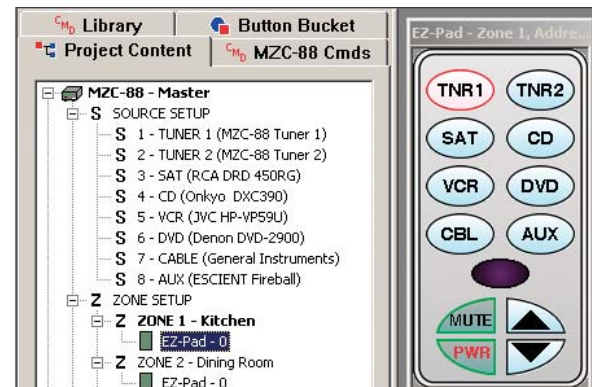

Figure 6
7. In the Project Content Window, left click the EZ-Pad in the Zone that is going to be programmed to send RS232 commands from the RSA-1.0. (Zone 1, EZ-Pad-0 as shown in Figure 6.) The EZ-Pad selected will appear on screen.